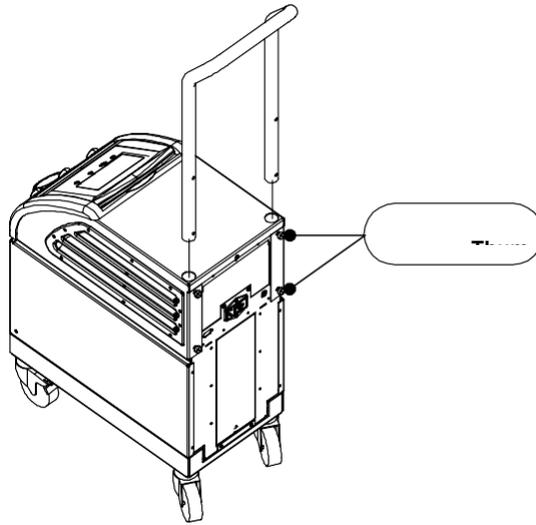

Figure 8: Handle Assembly.
2. Slide the two ends of the handle into the holes in the top cover (pay attention to the direction of the curve in the handle) until the handle is inserted all the way in (See Figure 8).